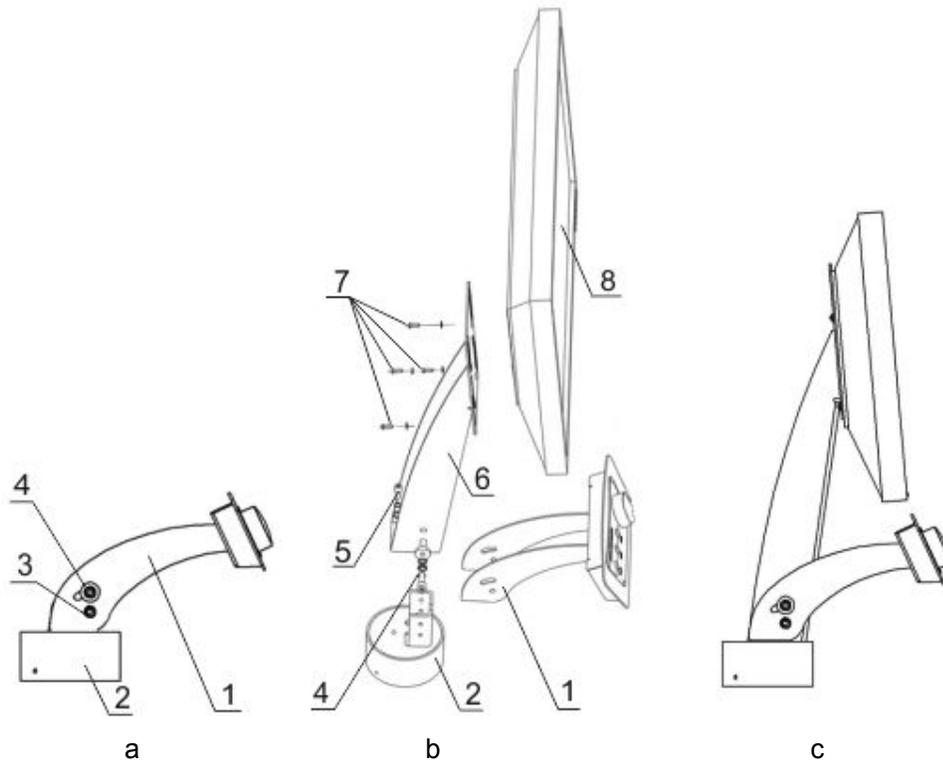

Figure 4.4
4.2.6 Set monitor in accordance with Figure 4.4: